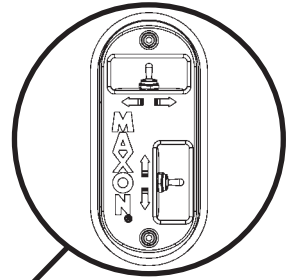
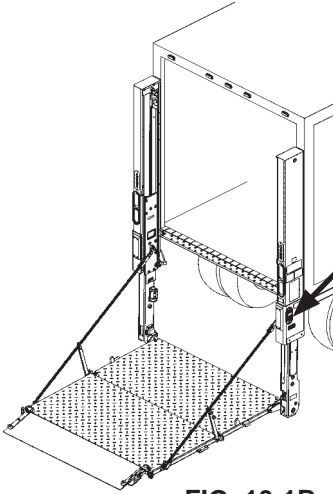

FIG. 10-1A
FIG. 10-1B
Toggle switches on column switch (FIG. 10-1A) let operator raise (UP), lower (DOWN), FOLD, and UNFOLD the platform (FIG. 10-1B) while standing on the ground.